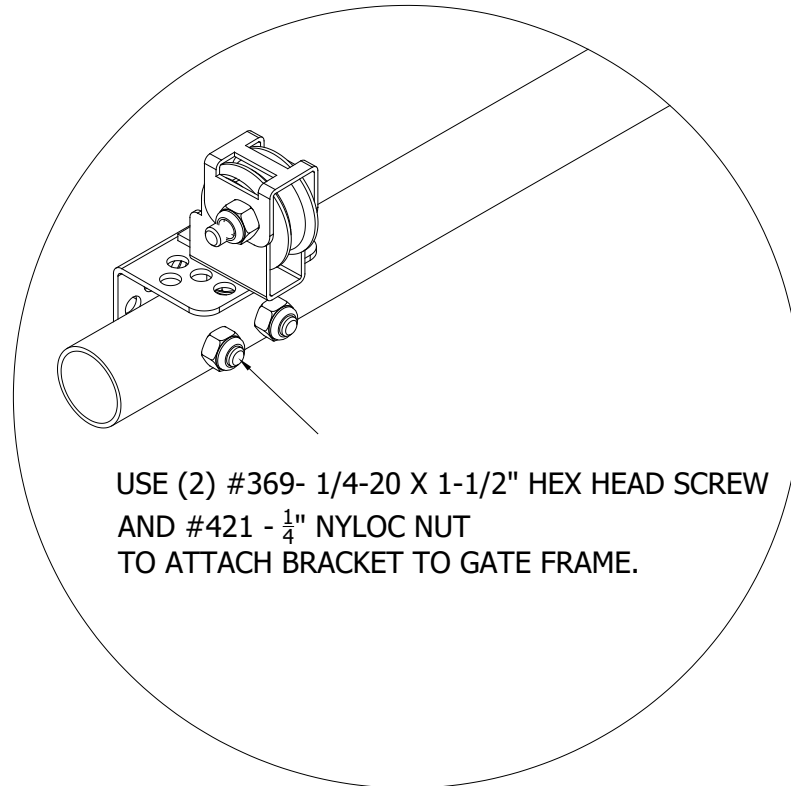

Figure E.1
2. Once aligned, attach the pulley bracket to the gate frame using the 1/4"-20 x 1-1/4" hex head bolt (#369) and 1/4"-20 Nyloc nuts (#421) provided. See figure E.1.